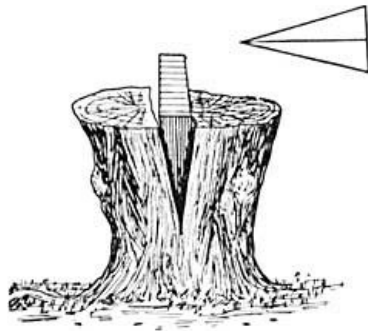

FIG. 107.—By means of a wedge, the stump is split.
**158. The Wedge.** If an inclined plane is pushed underneath or within an object, it serves as a wedge. Usually a wedge consists of two inclined planes (Fig. 107).